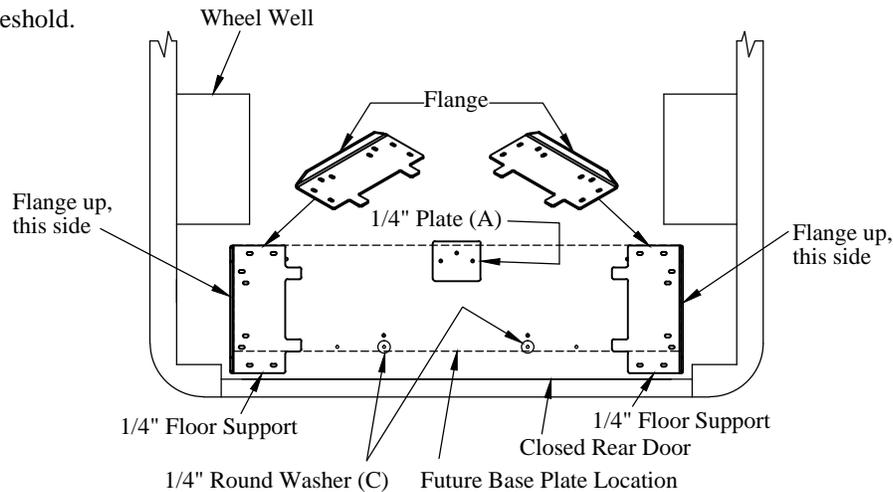

Figure 9: Floor support locations (top view).
1. **Position** the 1/4" floor supports in the van (Figure 9).
2. **Position** an additional round 1/4" washer at each "C" location (Figure 9).
3. **Position** the 1/4" plate at the "A" location (Figure 9).
- 9-3/4" from the the closed rear doors at the center (Figure 9).